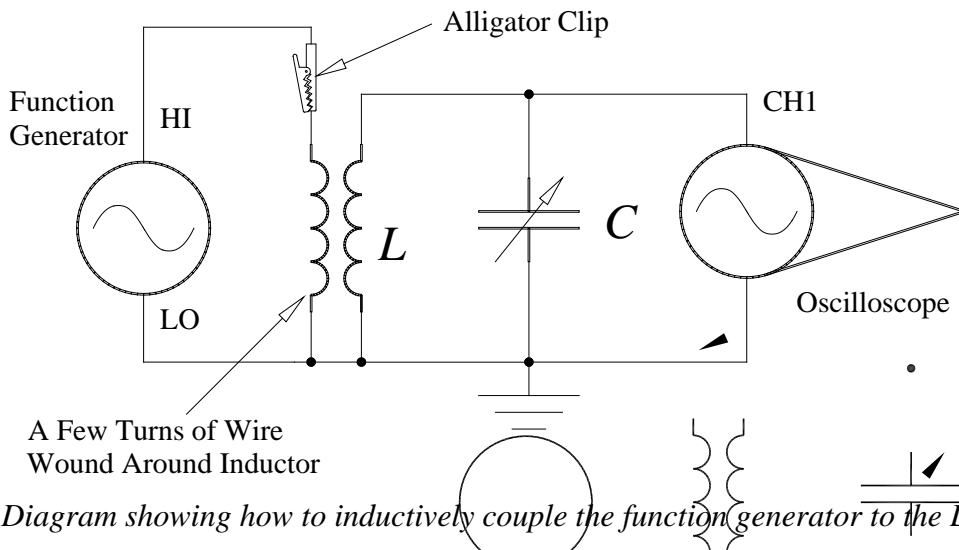

Figure 12 Diagram showing how to inductively couple the function generator to the LC circuit.
- 1) One of the component blocks contains a coil with a ferrite core connected to a variable capacitor. A small wire is wrapped around the coil. Connect the function output (600W) of the HP function generator to the bare end of this wire through the *alligator clip*. Note that one end is marked as ground and this end must be connected to the LO side of the function generator. The small wire *inductively couples* the function generator to the coil as shown in Figure 12. Turn the knob on the capacitor until it is fully **counter-clockwise**. Set the frequency of the function generator to 100kHz and the amplitude knob about in the middle of the range. The DC offset knob should be set to zero.
- 2) Connect the CH1 input of the oscilloscope to the LC circuit. See Figure 12. Make sure that the CH1 Probe is set to 1X and that the Trigger Source is set to CH1 and the Mode is Auto. Using the Measure Menu set up the oscilloscope to display the frequency on CH1 and the V_{pp} on CH1.
6) Your goal here is to make a smooth graph of the frequency response of the *LC* circuit. Set the function generator to 100kHz and leave the amplitude knob about mid-scale. Make a data table with columns for Frequency, Volts/ Div, and Volts. Measure the peak-to-peak amplitude of the wave across the *LC* circuit as shown in Figure 12. Record the Frequency from the oscilloscope, Volts/Div, the number of Divisions, and the amplitude in Volts.